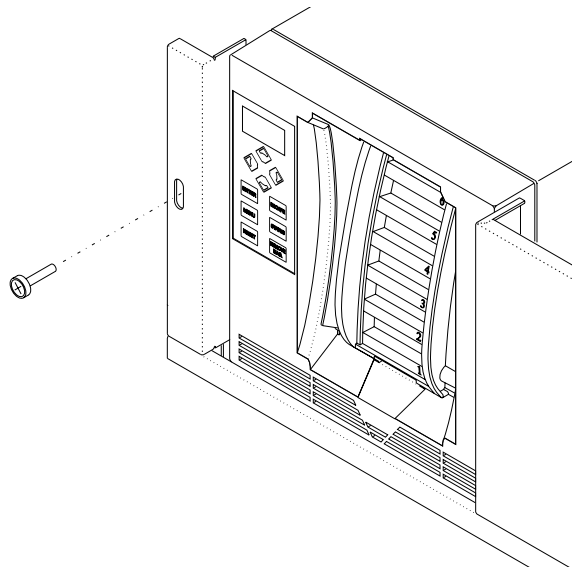

Figure 7-7 Removing the screw securing the autoloader to the rack
1. Remove the screw securing the front of the autoloader to the rack (see **Figure 7-7**).